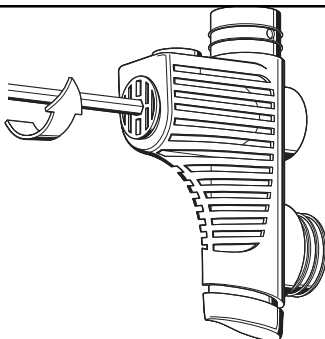

Figure 1
1.1.6 Apply a $\frac{3}{16}$ " hex key to the center of the valve core retainer(17). While holding the body secure, turn the valve core retainer counter-clockwise to loosen and remove (see Fig. 1). Using either the pinch method or a plastic O-ring removal tool, carefully remove the external O-rings(32&33) from the valve core retainer. Discard both O-rings and do not reuse.